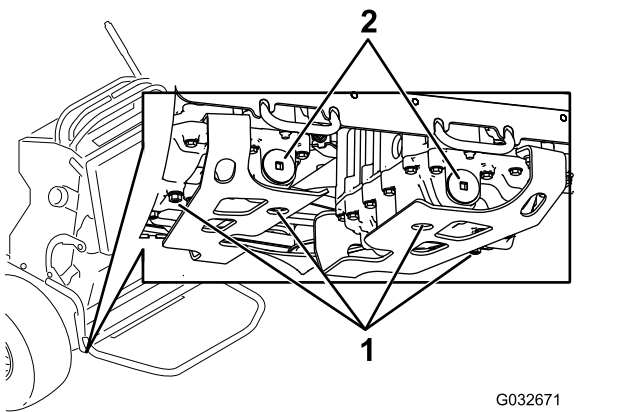

Figure 72
5. Locate the drain plug in the bottom of each transmission and place a drain pan under the plugs (Figure 72).